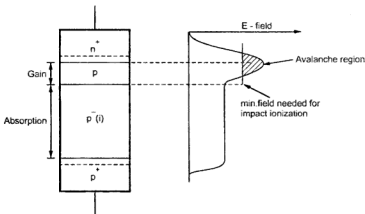

Fig. 3.2.5 APD schematic and variation of E-field across diode
- Fig. 3.2.5 shows the schematic structure of an APD. By virtue of the doping concentration and physical construction of the  $n^+p$  junction, the electric field is high enough to cause impact ionization. Under normal operating bias, the I-layer (the  $p^-$  region) is completely depleted. This is known as *reach through condition*, hence APDs are also known as *reach through APD* or *RAPDs*.